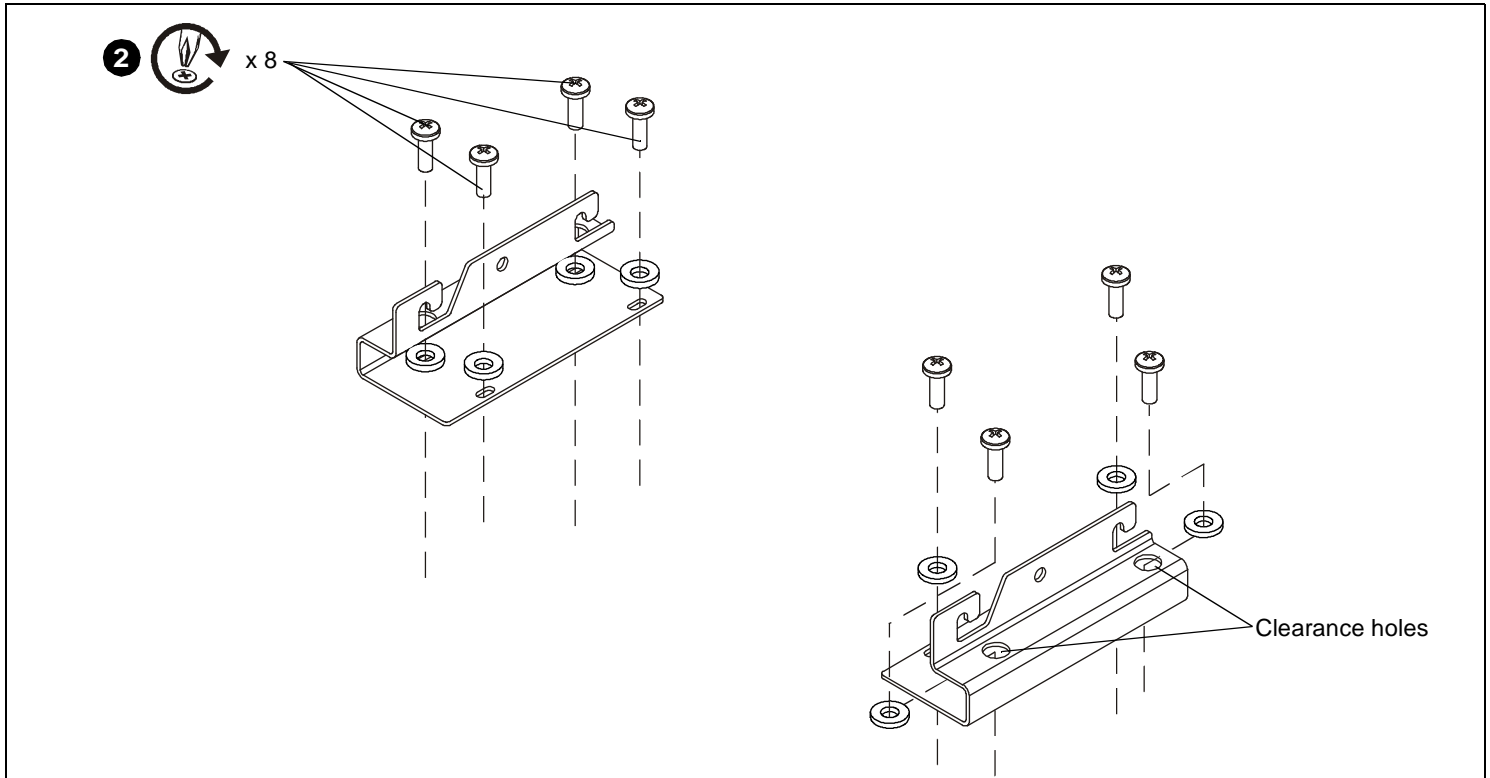

Figure 1
1. Lower custom HB brackets onto top of projector. Ensure that clearance holes on brackets are toward the projector outer edges. (See Figure 1)
2. Attach HB brackets to projector using eight M5 x 12mm Phillips pan head screws and eight M5 flat washers through eight holes in the HB brackets. (See Figure 1)